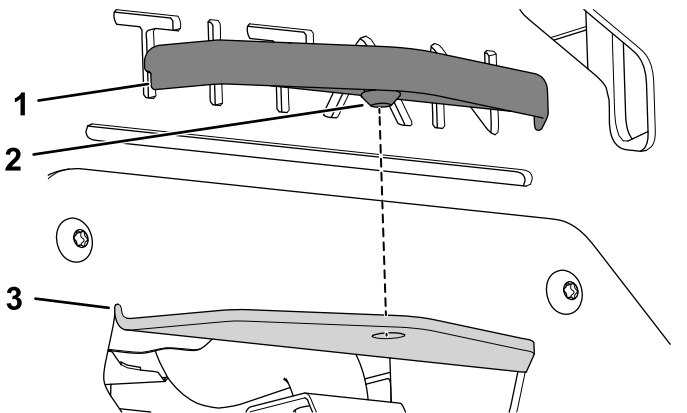

Figure 22
2. Align the hitch cover over the hitch and press it into place (Figure 22).